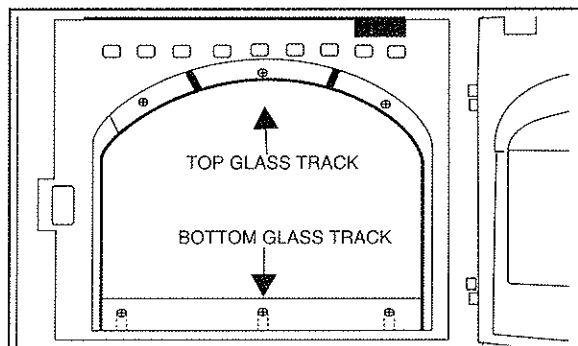

Figure 20
2. To remove the sealed glass, loosen the three (3) screws on the bottom glass frame, but do not remove. See Figure 20.